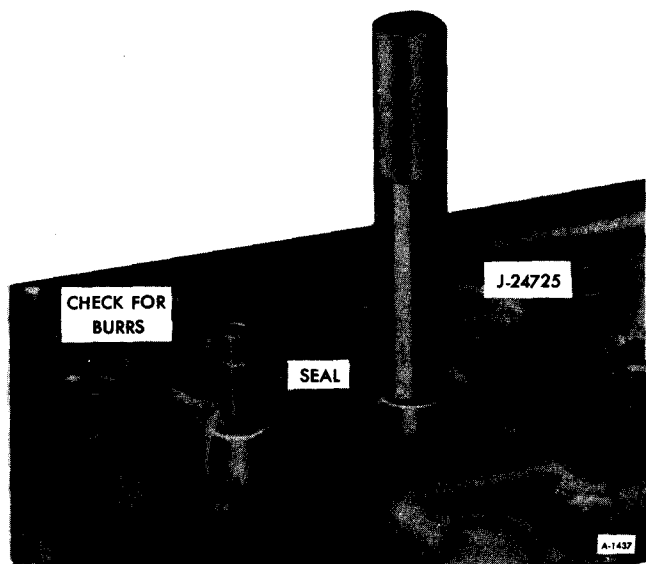

Figure 33—Valve Seal Installation
2. Install new oil seals over valve stem, using Tool J-24725 (figure 33).